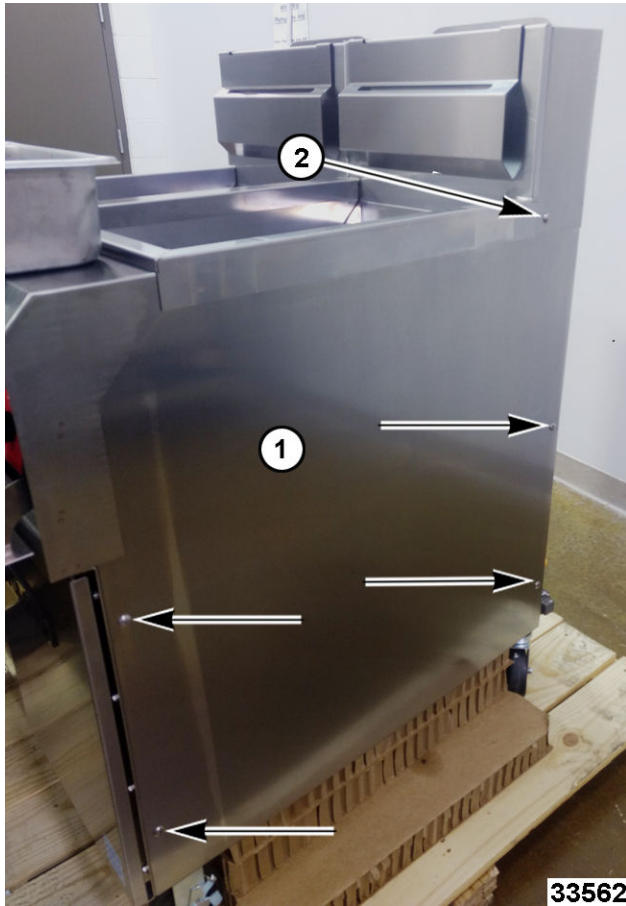

Fig. 1
1. Remove mounting screws (1, Fig. 1).
2. Loosen flue screw (2, Fig. 1) while carefully holding side panel.
4. Install screws (1, Fig. 1).
5. Retighten flue screw (2, Fig. 1).